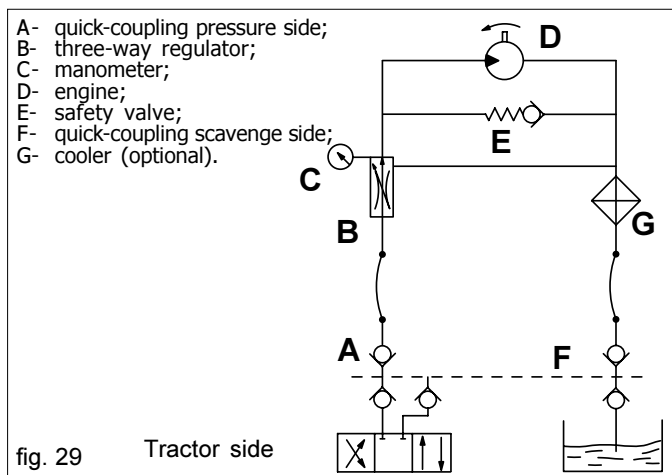
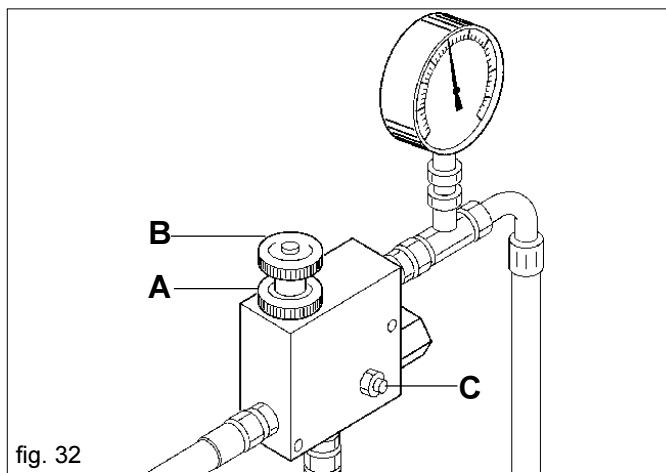

fig. 29 Tractor side
fig. 32
- **Oil supply**: follow the data of the table in Fig 29.
In tractors with a variable flow rate pump (closed hydraulic circuit), equipped with oil flow rate regulator, open the three-way regulator completely (B Fig. 32) and, starting with a low oil flow rate, gradually open the internal regulator of the tractor circuit until the required pressure is reached as shown by the pressure gauge (C Fig. 29).